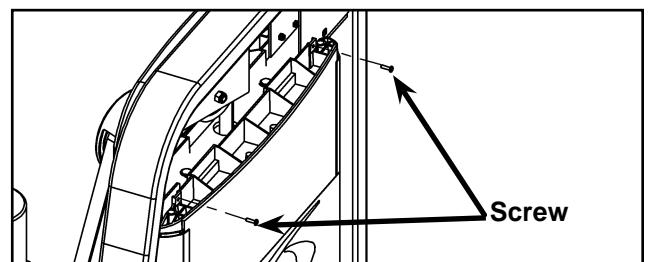

Figure 12
- B.** Install the top two screws securing the back shroud assembly. See Figure 12.